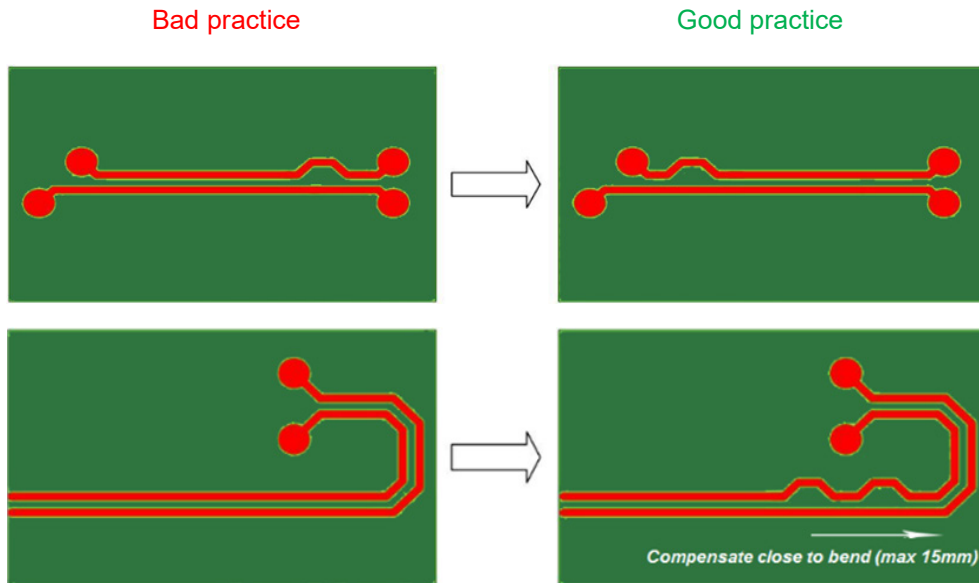

Figure 17. Differential Traces Layout Practices (3)
Differential Traces Layout Practices (3) (see Figure 17)